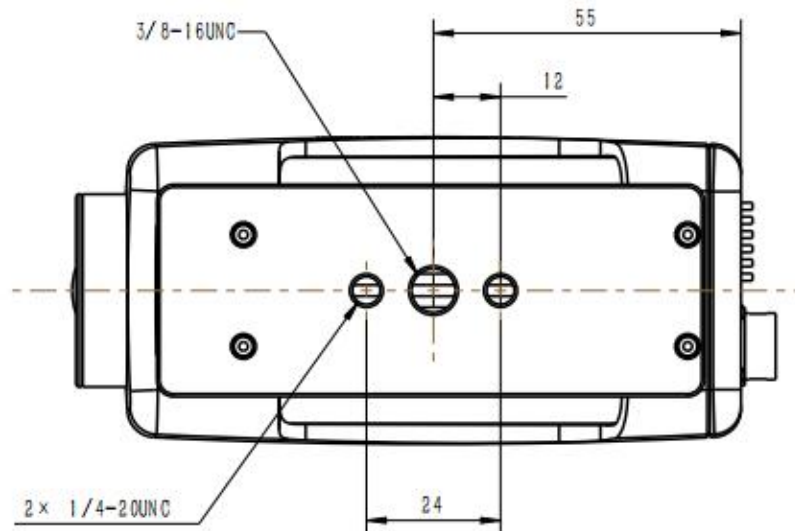

Figure 4 The bottom structure of camera adapter
- After the adapter bracket is installed, the bottom of the thermal imager is shown in Figure 4, and it is mounted on the corresponding supporting equipment through the mounting holes 3 / 8-16UNC or 1 / 4-20UNC at the bottom of the adapter bracket.